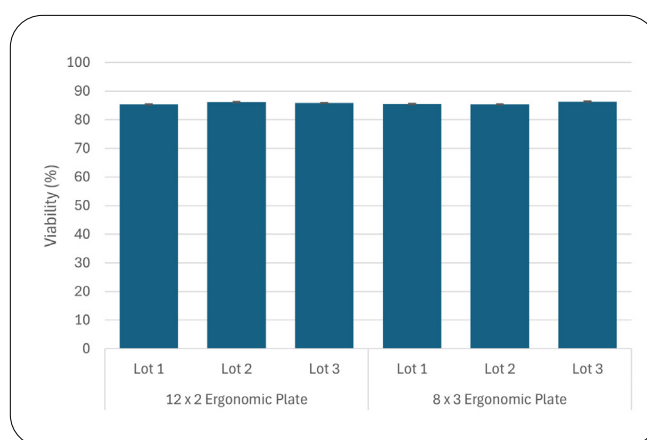

Figure 2: Average Jurkat viability of 24 counts from each ergonomic high-throughput cell counting plate. Error bars are standard deviations.
Ergonomic high-throughput cell counting plates (12 x 2 and 8 x 3 orientations) were evaluated for counting consistency by staining a sample of Jurkat cells with acridine orange/propidium iodide (AO/PI). Stained cells were loaded into all 24 wells of three different lots of 12 x 2 and 8 x 3 plates. Live, dead, and total cell concentrations and viability was measured from each plate using the Cellaca MX high-throughput cell counter. Figure 1 shows average dead and live cell concentrations of the 24 counts from each plate, with a coefficient of variation (CV) lower than 7% per plate (CV range between 4.41% and 6.29%). Additionally, a Bland-Altman analysis of the total cell concentration, commonly used to compare two methods, was performed on the 12 x 2 and 8 x 3 plates and results showed a nominal systematic bias of 2.69%, revealing that the 12 x 2 plates total cell counts are slightly higher than the 8 x 3 plates. These results show good consistency, replicability, and precision of cell counting independent of plate lot or modality. Jurkat viability was also measured for each plate modality from all three lots (Figure 2) and showed consistent results ranging from 85.3% to 86.3%. In conclusion, the 12 x 2 and 8 x 3 plates can be used interchangeably, as they measure cell concentration and viability within what is considered expected error.